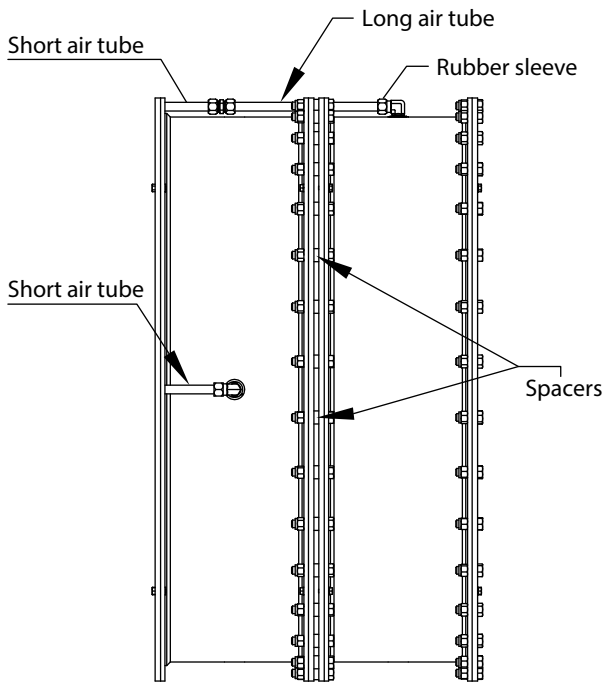

Figure 7
- 2.6.7 Align the air connections and reassemble the element halves, making sure the spacers are in place between the elements. See Figure 7.
- 2.6.8 Reassemble the air connection tubes. If an elbow has been removed, use a good quality pipe sealant on the threads. See Figure 7.